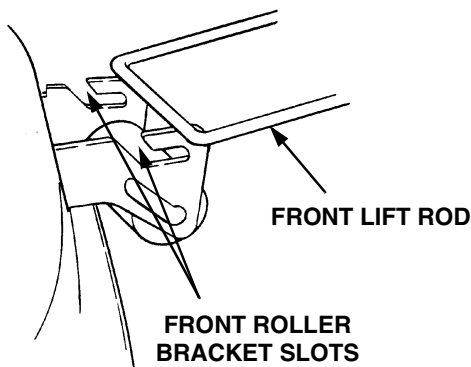

Figure 53
- Raise the tractor implement lift handle to its highest setting. Roll the mower deck forward until the front lift rod slides up and out of the openings of both front roller bracket slots. Manually lift the rod out of the slots if necessary (See Figure 53).
- Raise the front lift rod upward and slide the mower deck rearward. Lower the front lift rod so it rests on the front roller bracket of the deck, forward of the slots (Refer to Figure 53).